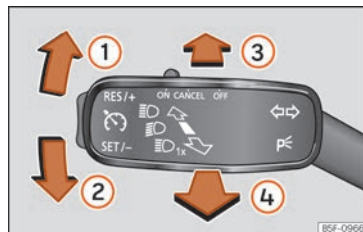

Fig. 131 Turn signal and main beam lever.
- Move the lever >>> Fig. 131 up ① or down ②.
- Press the lever »»» Fig. 131 forward in the direction indicated by arrow **(3)**.
- Pull the lever »»» Fig. 131 towards the steering wheel (point of resistance) in the direction indicated by arrow **(4)**.
- Move the turn signal lever **»» Fig. 131** **»» page 122** up or down to turn on the right or left-hand parking lights respectively.